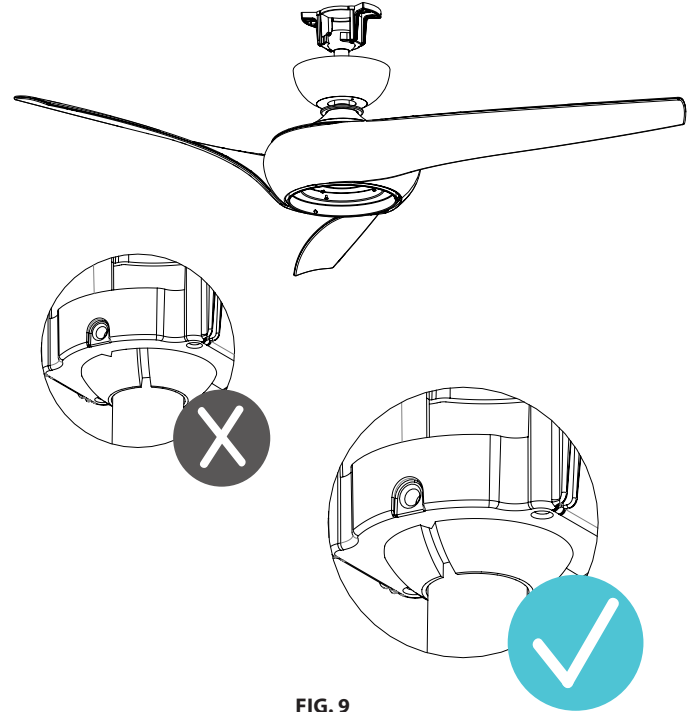

FIG. 9
1. Carefully lift the fan motor assembly up to the mounting bracket and seat the hanger ball in the mounting bracket socket. Make sure the tab on the mounting bracket socket is properly seated in the groove in the hanger ball (**FIG.9**). Rotate the socket assembly until the ball drops and locks into the hanger bracket screw.
NOTE: If you change your Wi-Fi settings (SSID or Security Passphrase) you will require a Wi-Fi reset. Refer to Fig. 9 and then use the Modern Forms app to connect your fan to the new network.